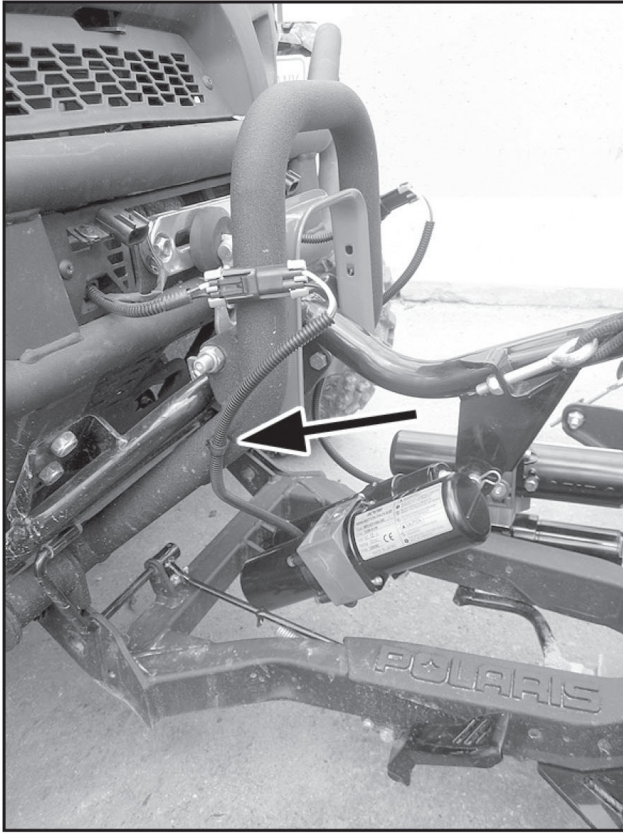

Figure 13
6. The clip that was installed in **step 6** (*in Wiring Kit Assembly Section*) should now be pushed into the 1/4" hole on the right hand side of the mid frame as shown in *figure 13*.